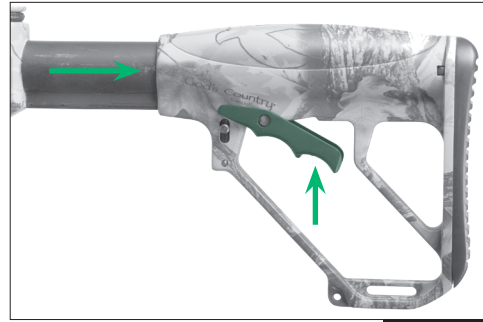

FIGURE 9
1. Press the lever on the bottom of the butt stock (Fig. 9).